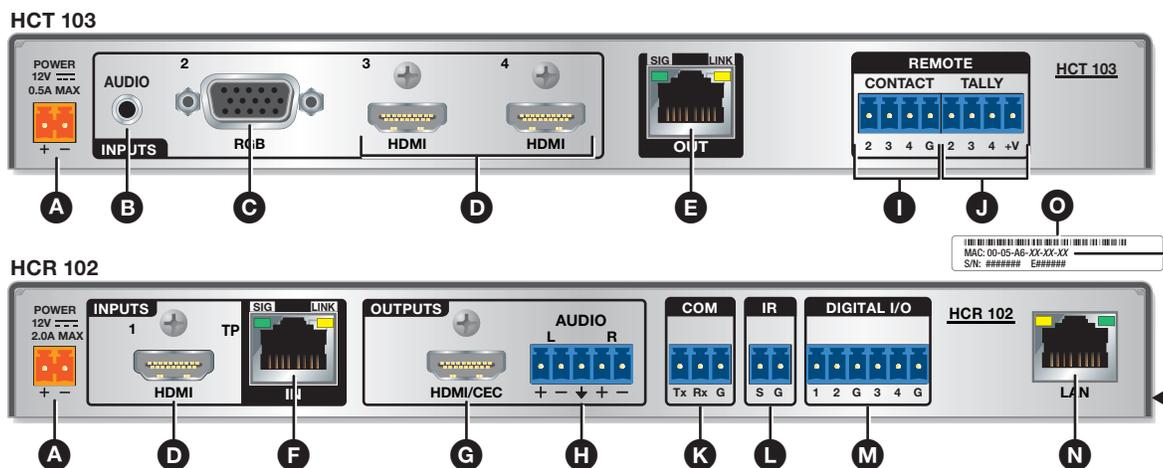

Figure 3. HCT 103 Rear Panel (Top) and HCR 102 Rear Panel (Bottom)
4. Write down the MAC address of each HCR 102 (see figure 3,  for location) or other IP Link Pro device to be used.
2. Connect the PC to the receiver via the rear panel LAN port (see figure 3, **N**) or the front panel Config USB connector (see figure 2, **A**) on page 2). USB connection requires a user-provided USB A to USB mini-B cable.